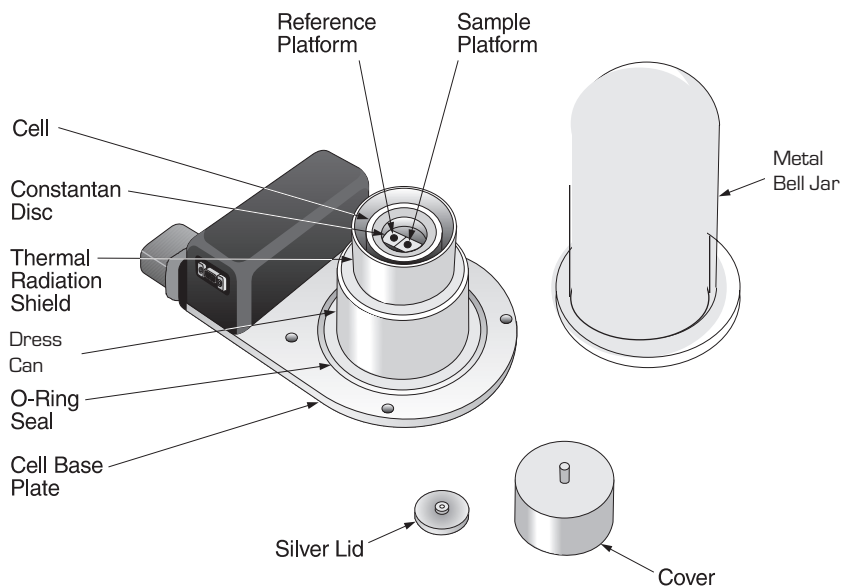

Figure 2.9
1. Remove the metal bell jar from the cell you are about to install (see Figure 2.9).